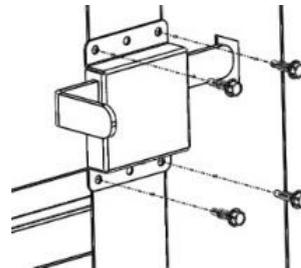

Figure 14 Slide lock fitting into pre-cut lock slot.
1. Attach the slide locks to the right side metal end cap brace on the upper section of panel 2 (fourth panel from the floor) using four (4) CP2189 tech screws on the slide lock (**SEE FIGURE 14**).